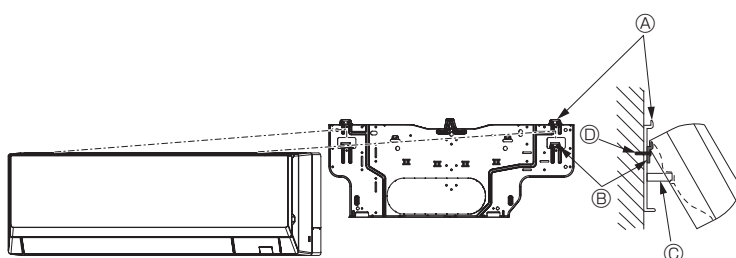

Fig. 3-13
- When the indoor unit cannot be hanged and lifted up with the regular hook (the dimension of 2.1. ⓐ (the clearance between the ceiling and the unit) is 75 mm or less), hang the unit on the lower hook for left piping. (Fig. 3-13)
#### (Fig. 3-13)